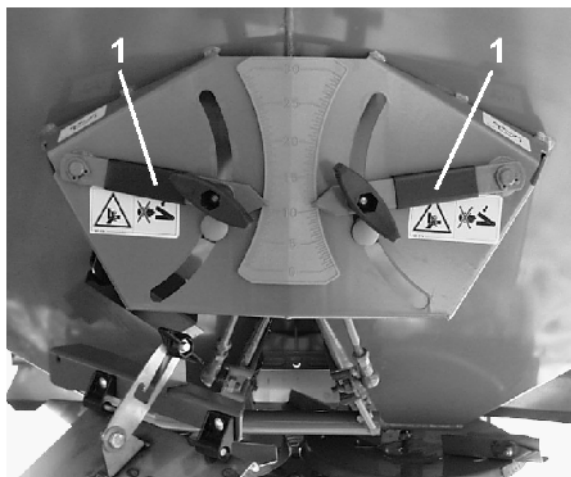

Fig. 102
- o the edge (Fig. 102/1) of the slider must be exactly flush with the bottom corner (Fig. 102/2) of the discharge opening.